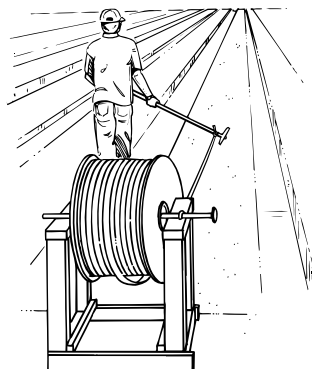

Figure 4.1 Pulling Drip Tape Along a Row
2. Pull the lateral along the row, taking care not to drag it on the soil surface (fig. 4.1). Lay the drip tape with the emitters facing up.